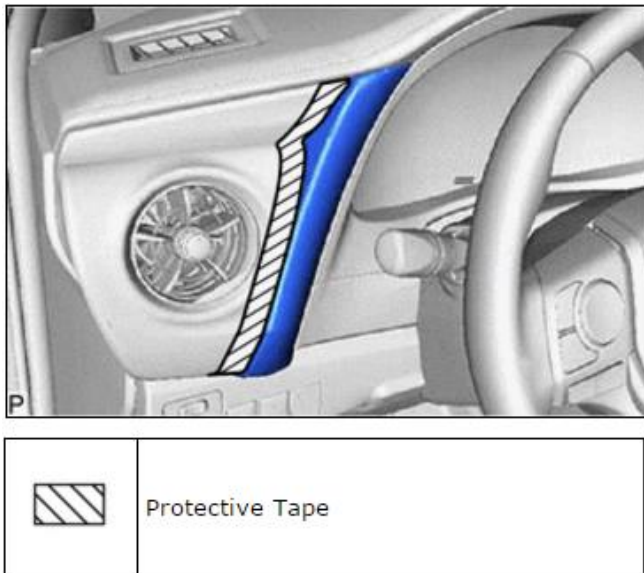

Fig. 3
- Apply protective tape to the area shown in **Fig. 3**